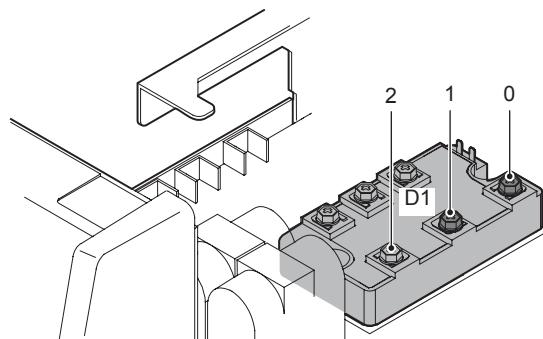

Figure 6-8: The check points 1 (P) and 2 (N)
- 5) Verify the rectified output voltage of the input diode, D1 using a DC voltmeter. (The capability of the voltmeter should be more than 1000VDC.) Using a DC voltmeter, measure between the points 1 (P) [+] and 2 (N) [-] on D1. Points 1 (P) and 2 (N) are on D1. See Figure 6-8. The measured voltage should be approximately 1.4 times larger than input voltage measured in #1 above. Replace diode D1 if the calculated measurement is not within the corresponding range (260 ? 360/580 ? 720 VDC) following the process in section 7.3.28.